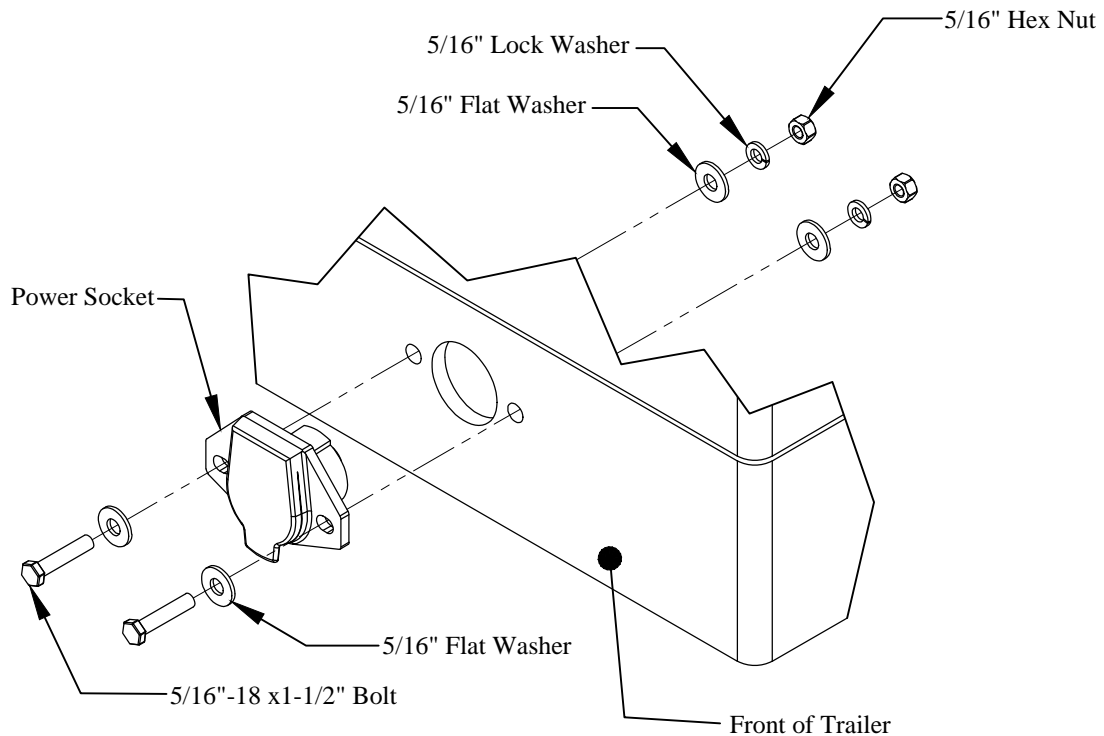

Figure 8: Power socket.
6. **Mount** the power socket to the trailer using the supplied  $5/16\text{-}18 \times 1\text{-}1/2\text{'}$  bolts, washers, and nuts (Figure 8).